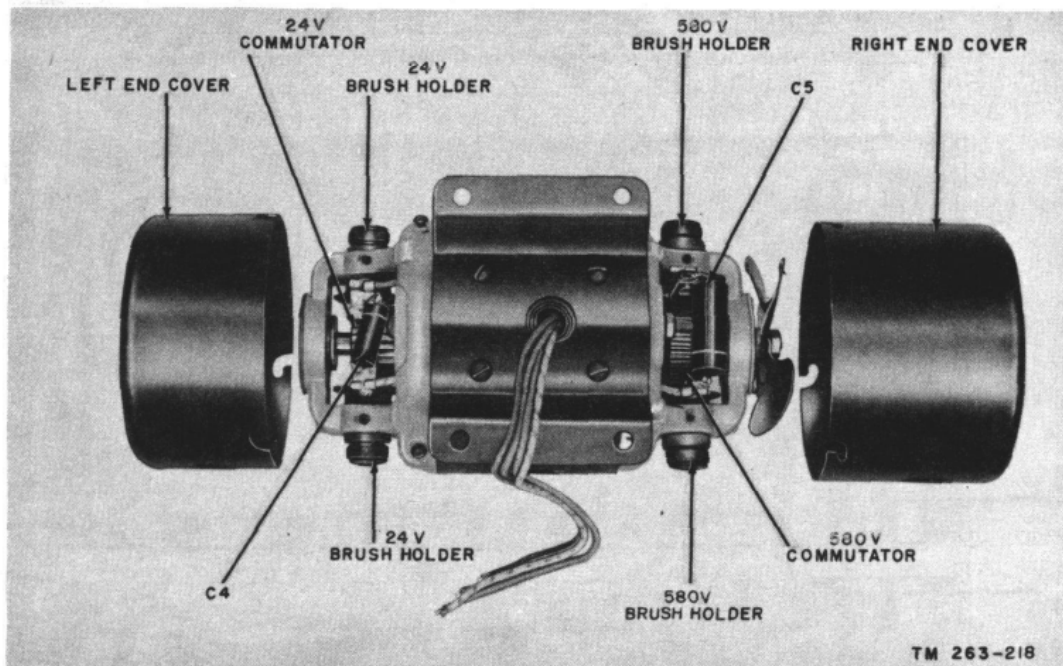

Figure 147. Dynamotor D1, with end covers removed.
c. Rotate the right end cover toward the chassis front panel and pull it off the dynamotor frame. The 580-volt brushes can now be reached (fig. 147).
d. Rotate the left end cover away from the chassis front panel and pull it off the dynamotor frame. The 24-volt brushes can now be reached (fig. 147).
b. Unscrew the brush caps (fig. 147) and remove the brushes.